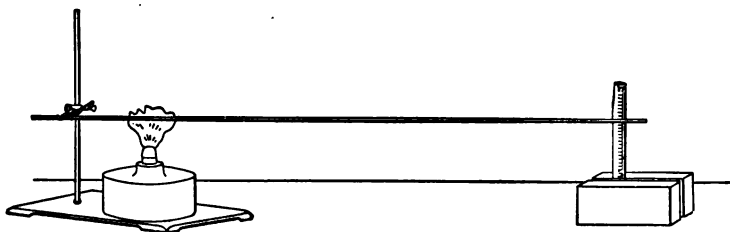

FIG. 5.
P. The end first rises, and then goes slowly down again (Fig. 5). Extraordinary!